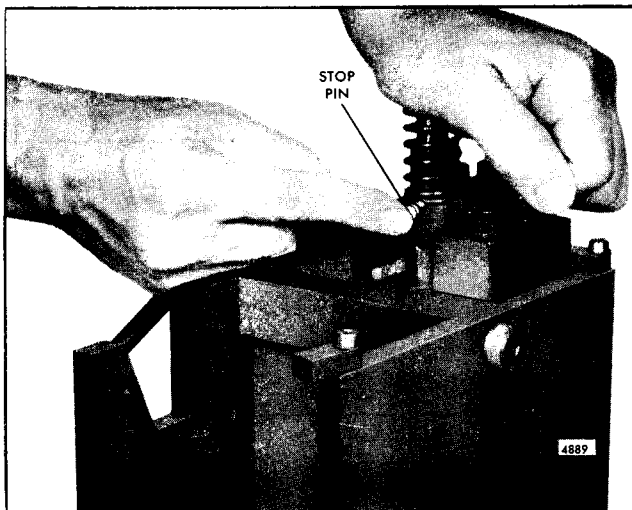

Fig. 42 - Installing Injector Follower Stop Pin
3. Refer to Fig. 42 and place the stop pin on the injector body so that the follower spring rests on the narrow flange of the stop pin. Then align the slot in the follower with the stop pin hole in the injector body. Next align the flat side of the plunger with the slot in the follower. Then insert the free end of the plunger in the injector body. Press down on the follower and at the same time press the stop pin into position. When in place, the spring will hold the stop pin in position.